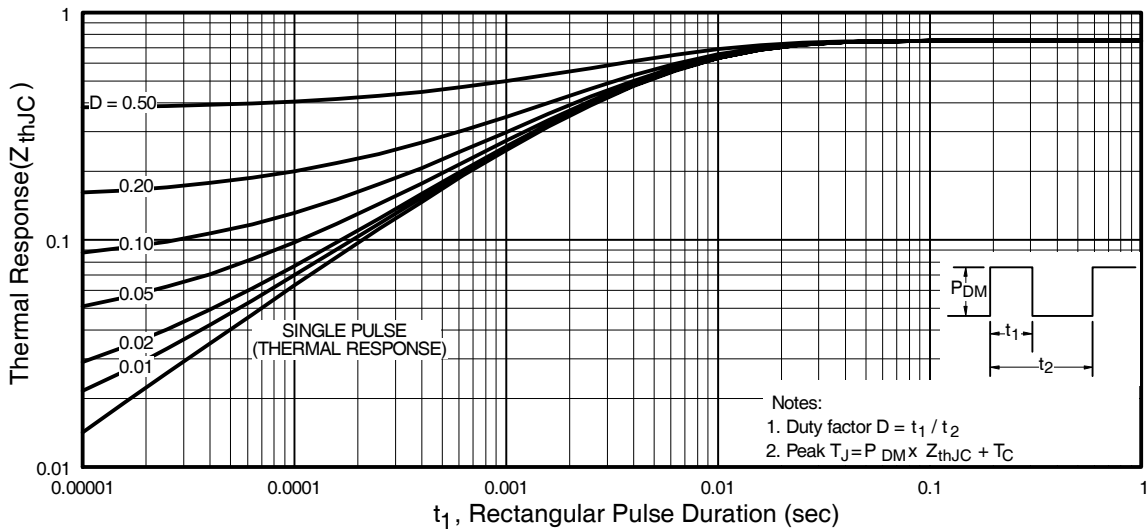

Fig 11. Maximum Effective Transient Thermal Impedance, Junction-to-Case
- ① Repetitive rating; pulse width limited by max. junction temperature. (See fig. 11)
- ② Starting $T_J = 25^\circ\text{C}$, $L = 138\mu H$